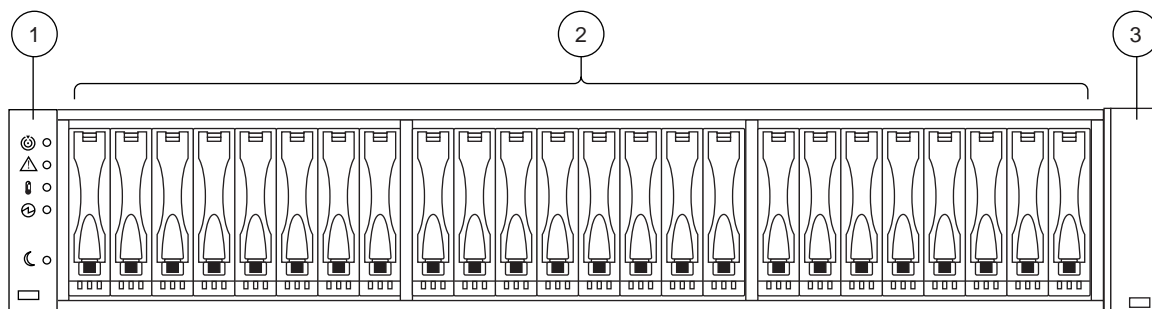
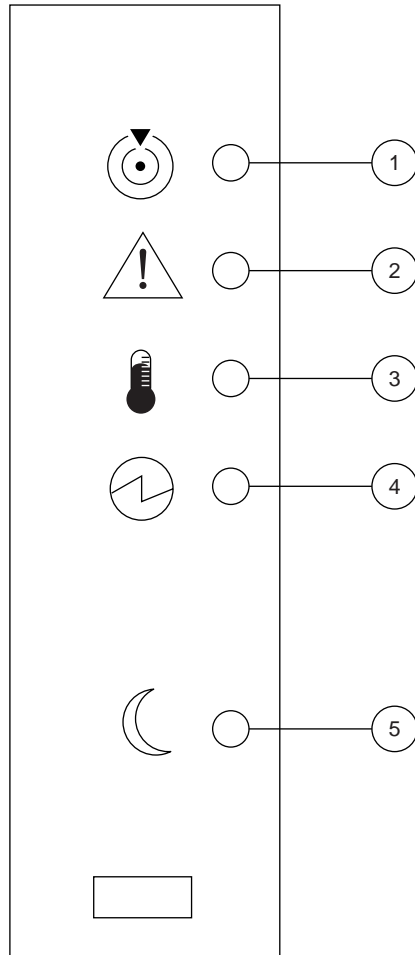

Figure 1-6 IS2224 JBOD Storage Enclosure Example (Front View)
Figure 1-7 IS2224 JBOD Enclosure Front Status Panel
The front-panel control LEDs (see callout (1) in Figure 1-6 and also Figure 1-7 on page 8) provide status and operational information for the JBOD enclosure. Note that during the power-up process these LEDs may flash intermittently until all sub-systems within the enclosure are fully powered on. Ensure that all storage enclosures in the system have powered on fully before bringing the system server online. The indicators have the following functions:
- (1) Storage enclosure identifier LED - this blue/white indicator is on for unit identification only
- (2) Amber service action required LED
- (3) Amber over temperature warning LED
- (4) Green “power good” LED lights when the enclosure is fully operational
- (5) Green “standby” power mode LED lights when power is available (but unit is not operational)
Retention of critical data is enabled by optional, fully redundant and hot-swappable Environmental Services Modules (ESMs). Each ESM features three 6Gb/s SAS ports, providing connectivity for two host devices and an expansion port to connect additional JBOD enclosures via SFF-8088 connections. LEDs on the power supplies, ESMs and each individual drive carrier allow all system components to be closely monitored to help system administrators ensure storage integrity. Figure 1-6 on page 7 shows an example rear view of the IS2224 JBOD enclosure.